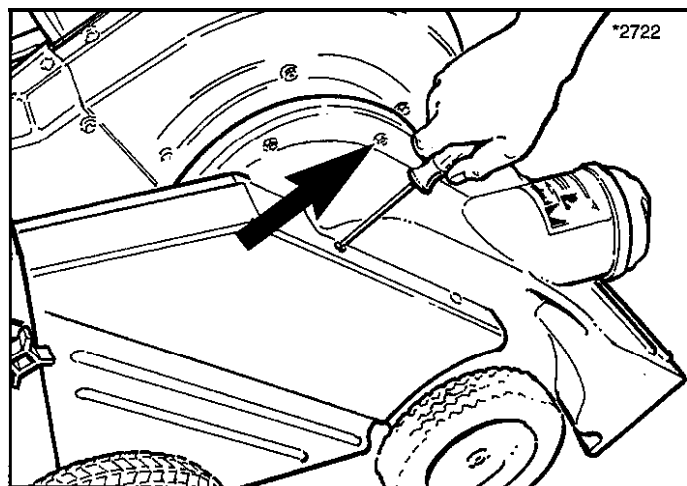

Figure 17. Remove Right Cover Panel Fasteners
3. Remove (2) panel fasteners and (2) #10 x 5/8" slotted, hex head screws from right side panel (Figure 17), and remove panel from unit (Figure 16).